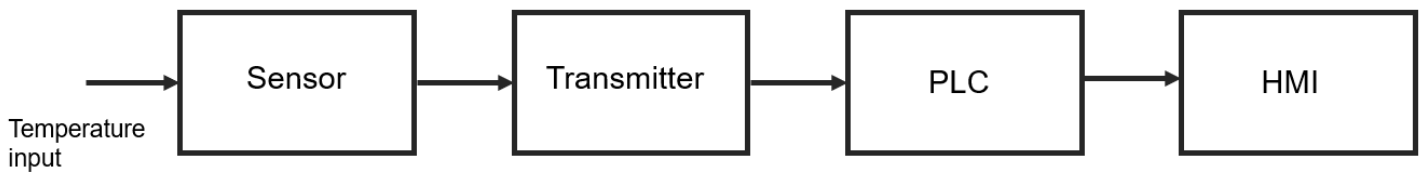

Figure 1 - Block diagram
A block diagram, schematic diagram and specification detailing the temperature control system layout and expected operation are shown in Figures 1 and 2 below.
- access to relevant information sources (digital or hard copy), including Figures 1 and 2